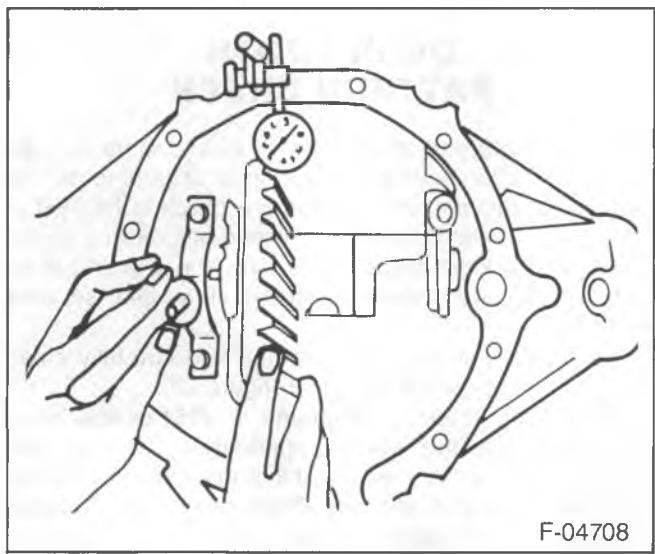

Figure 20—Installing Side Bearing Gaging Tool
4. Insert J 22779 between the axle housing and the left bearing cup (figure 20).